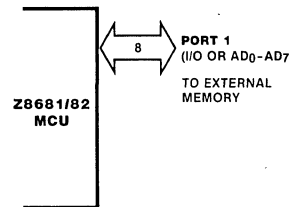

Figure 8. Port 1
Port 1 is a dedicated Z-BUS compatible memory interface. The operations of Port 1 are supported by the Address Strobe (\overline{AS}) and Data Strobe (\overline{DS}) lines, and by the Read/Write (R/\overline{W}) and Data Memory (DM) control lines. The low-order program and data memory addresses (A_0 - A_7) are output through Port 1 (Figure 8) and are multiplexed with data in/out (D_0 - D_7). Instruction fetch and data memory read/write operations are done through this port.